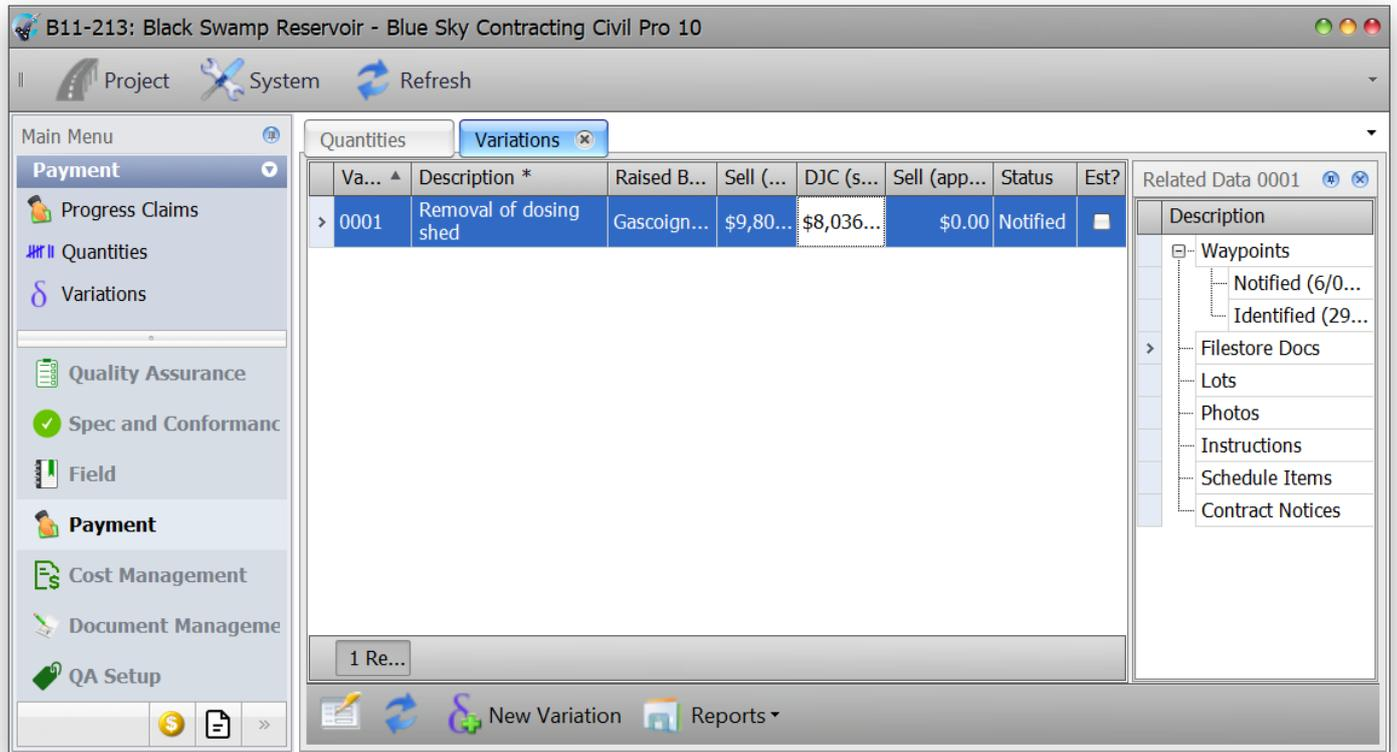

Figure 95 New variation within the Variation register
- Enable editing and enter in the DJC submitted rate of \$8036 directly into the register. When completed your register should look like that in Figure 95 below.